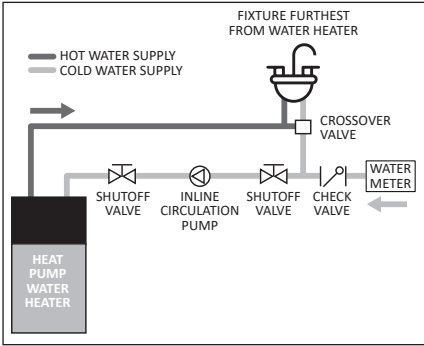

Figure 21 - Recirculation On-Demand Line
**IMPORTANT:** The recirculation system or pump must comply with local and state codes (see CA Title 24 Guidelines for installations in the state of California). When implementing the recirculation loop, a crossover valve must be installed on the furthest fixture from the water heater, and an on-demand inline circulation pump must also be installed on the cold water supply line (see Figure 21). Refer to manufacturer’s installation instructions and requirements for the crossover valve and circulation pump.